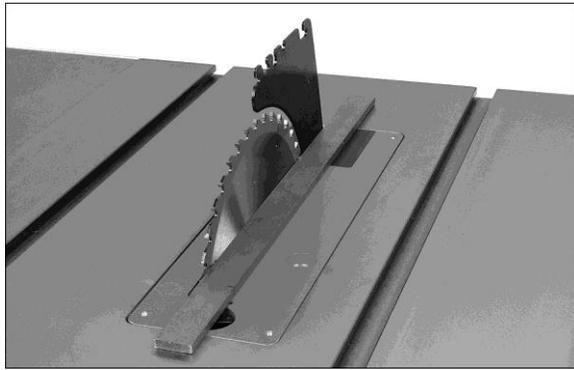

Figure 7-6
- Place a straight edge on table so it rests against blade and riving knife. See Figure 7-6. Rotate blade so that top of blade tooth touches straight edge.